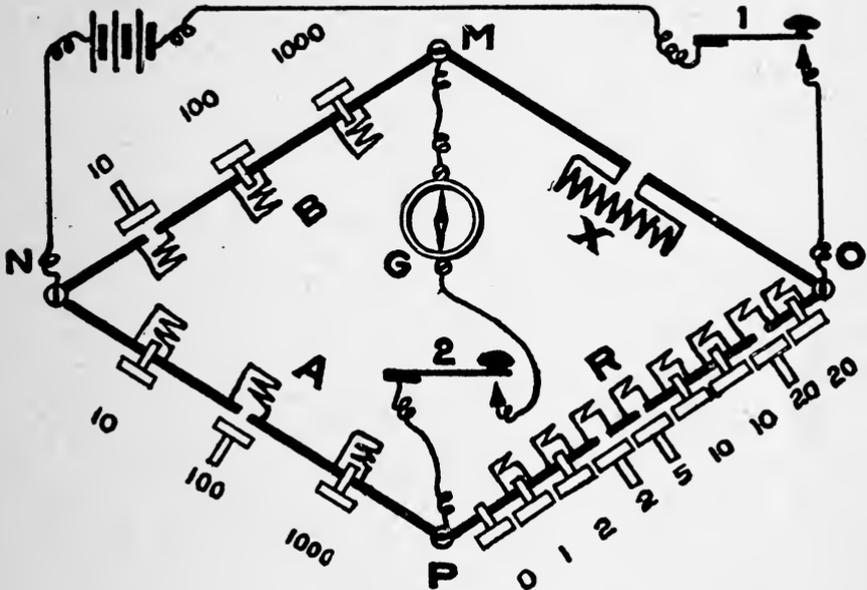

FIG. 32.
92. The coils for the rheostat are tested by means of an apparatus named after the English scientist WHEATSTONE, the inventor. Fig. 32 illustrates its principle. *A*, *B*, *R* are rheostats, *X* is the coil to be measured, *G* is the galvanometer. If key 1, near the battery, is depressed, the current flows to point *O* where it divides, to meet again at *N* and to return to
A simple form of Wheatstone's bridge is the DIVIDED WIRE BRIDGE, used especially for measuring a low resistance by another known resistance. In this instrument the connection with the galvanometer key is not fixed, (as at  $M$  in fig. 32), but contact may be made at any point of a wire stretched along a graded scale, from which the ratio of the two parts of the wire (which is the same as that between the known and the unknown resistance) may be read off.